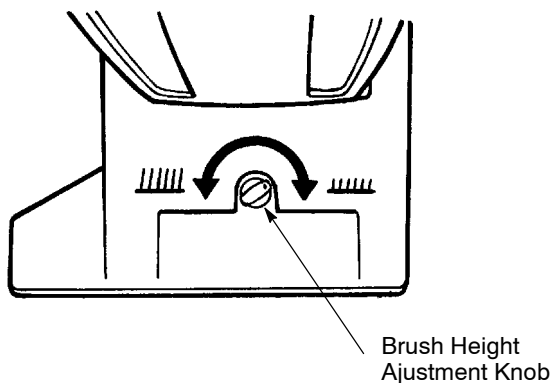

FIG. 3
3. Adjust brush height to suit carpet pile by turning brush height adjustment knob on brush housing (Figure 3).